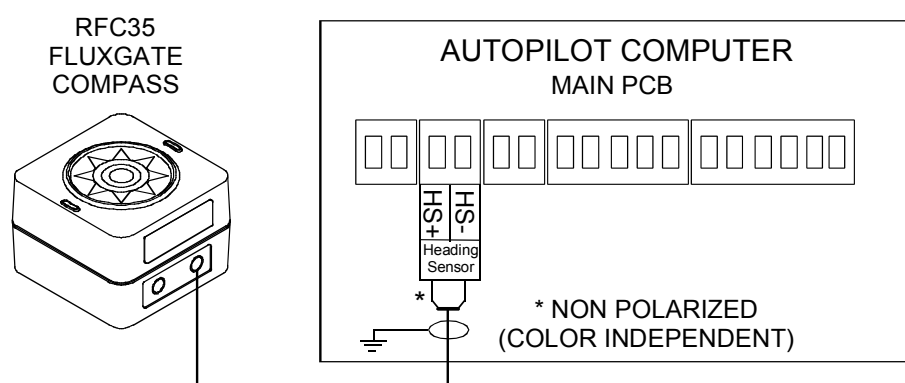

Figure 3-14 RFC35 connection
- Connect the RFC35 to the autopilot computer as per Figure 3-14.